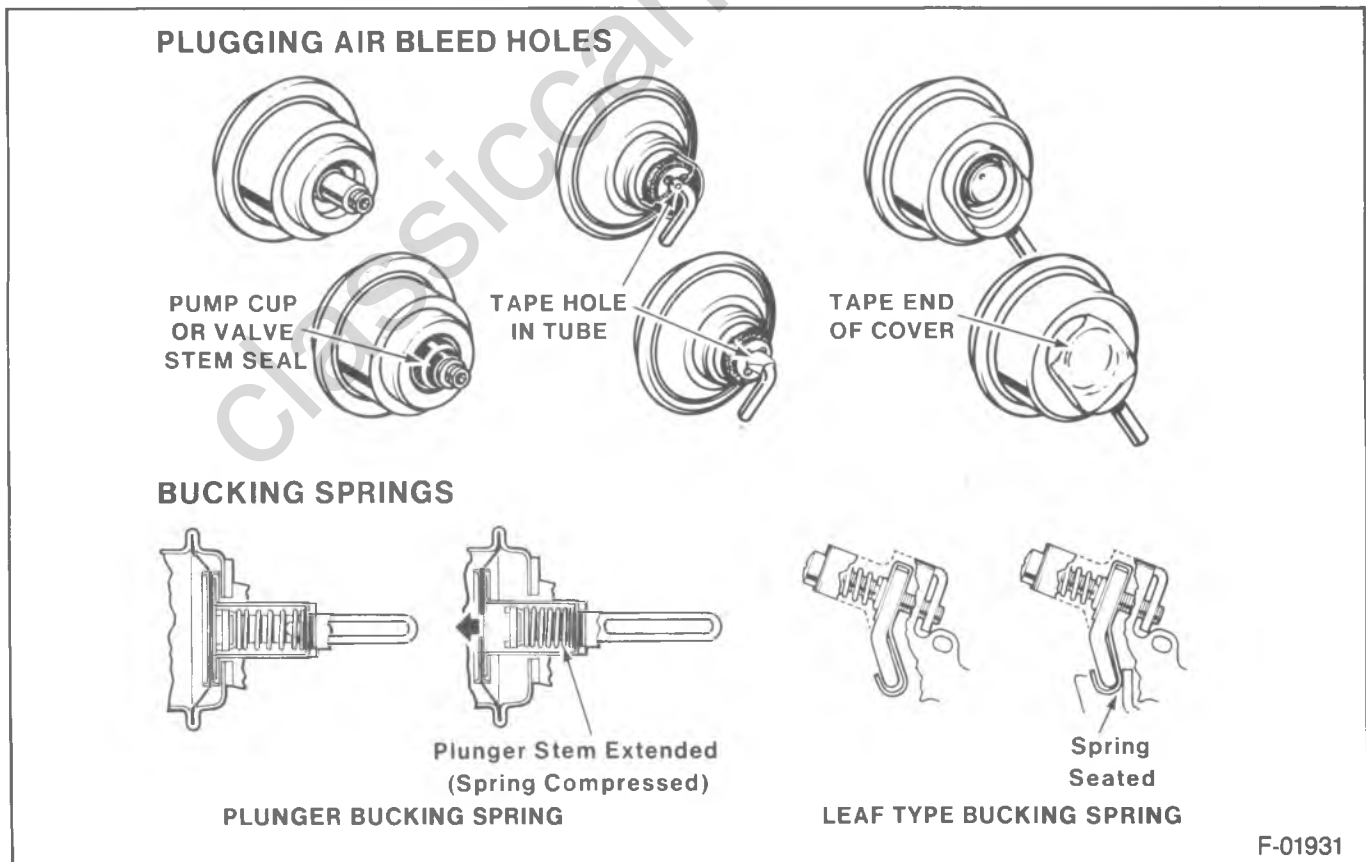

Figure 46—Vacuum Break Adjustment Information
- If necessary, bend the air valve link to permit full plunger travel, then reapply vacuum to fully retract the plunger (figures 46 and 47).
1. Plug vacuum break bleed holes, if applicable. With the air valves closed, apply -51 kPa (15-inches Hg) vacuum to seat the vacuum break plunger (figure 46 and 49).